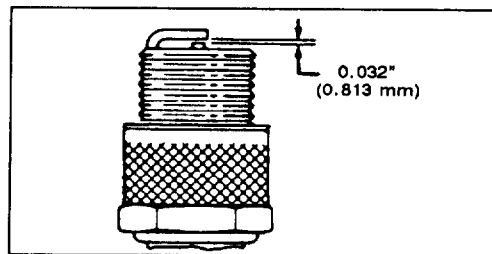

Figure 14
3. Set air gap at 0.032" (0.81 mm) (Fig. 14). Install correctly gapped spark plug and gasket seal. Tighten plug firmly to 15 ft-lb (20.4 N·m).